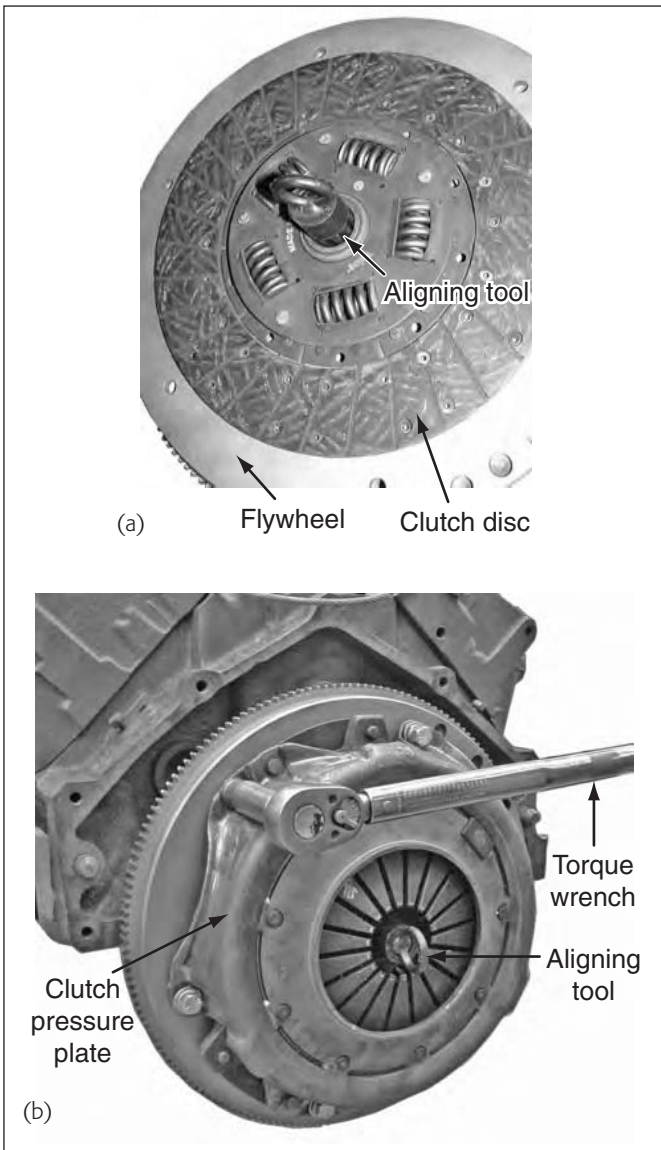

FIGURE 17.73 Clutch installation. (a) Align the clutch disc with an aligning tool. (b) Torque the pressure plate to specifications. (Courtesy of Tim Gilles)
- Use a clutch aligning tool to align the clutch disc to the pilot while you attach the disc and clutch pressure plate to the flywheel. Injection molded plastic clutch pilots are available for each make of vehicle. One is shown in use in **Figure 17.73**.